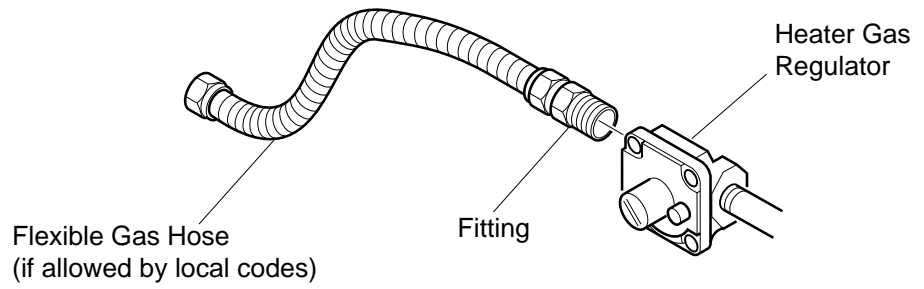

Figure 11 - Attaching Flexible Gas Hose to Heater Gas Regulator
1. Apply pipe joint sealant lightly to male threads of the fitting to be threaded into gas regulator. Connect approved flexible gas hose to gas regulator of heater (see Figure 11, page 15).